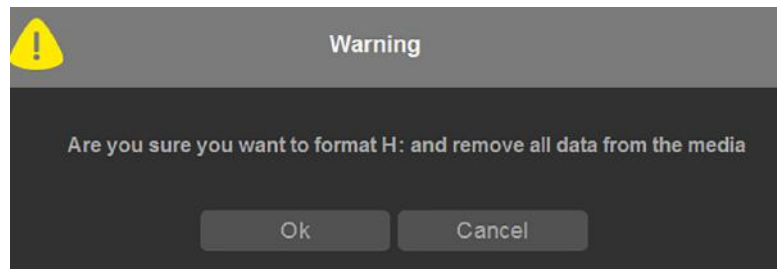

Figure 4-13. Format Warning Pop-up Window
4. The system displays a pop-up menu, as shown in Figure 4-13, select OK to continue.